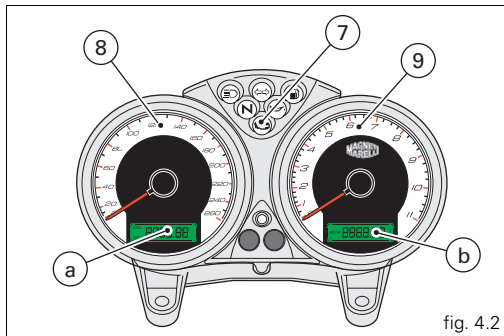
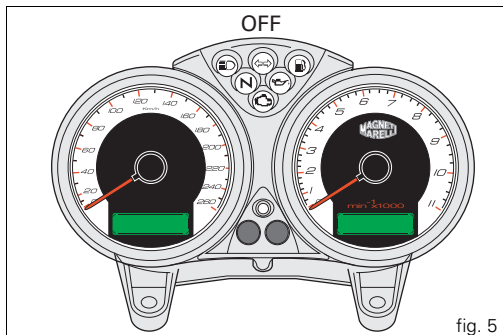
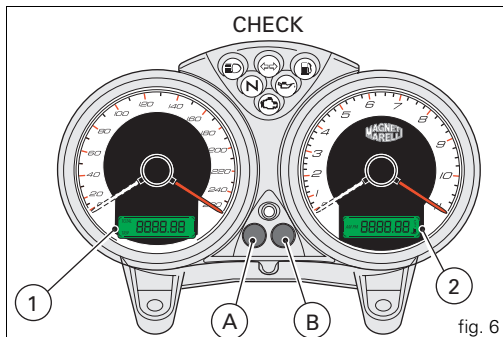

fig. 4.2
fig. 5
fig. 6
When the engine is switched on (key turned from **OFF** to **ON**), the instrument panel checks all instruments (dials, display, warning lights), see (fig. 5 and fig. 6).
By pressing button (A, fig. 6) with the key turned to **ON**, you can cycle between display of the trip counter and the odometer and, if the fuel level warning light is on, the fuel reserve trip counter.
If button (A, fig. 6) is held pressed for more than 2 seconds while the **TRIP** (trip meter) is active, the display is reset (LCD 1).
If button (B, fig. 6) is pressed with the ignition key at **ON**, the display shows the clock and the oil temperature.
Press (B, fig. 6) for at least 2 seconds and the time will be shown in display (b, fig. 4.2).
Select AM/PM by pressing button (A, fig. 6). Press button (B) to select the hour setting function. Press (A) repeatedly to change the hour indication. Press button (B) to change to the minute setting function.
When the fuel level warning light illuminates the word "**FUEL**" appears on display (2, fig. 6) and the fuel reserve trip counter function will be activated and indicate on display (1, fig. 6) the number of kilometres travelled in reserve preceded by the letter "F" (FUEL).
The "**MAInt**" message on display (1, fig. 6) indicates that the service interval has been reached: it will be displayed for 5 seconds each time the ignition is switched **ON**. When the "**MAInt**" message is displayed, contact an authorised dealer or service centre.
Press button (B, fig. 6) within 5 seconds after the ignition key is turned to the **ON** position to adjust the brightness of the backlight. The brightness changes at each press of the button.